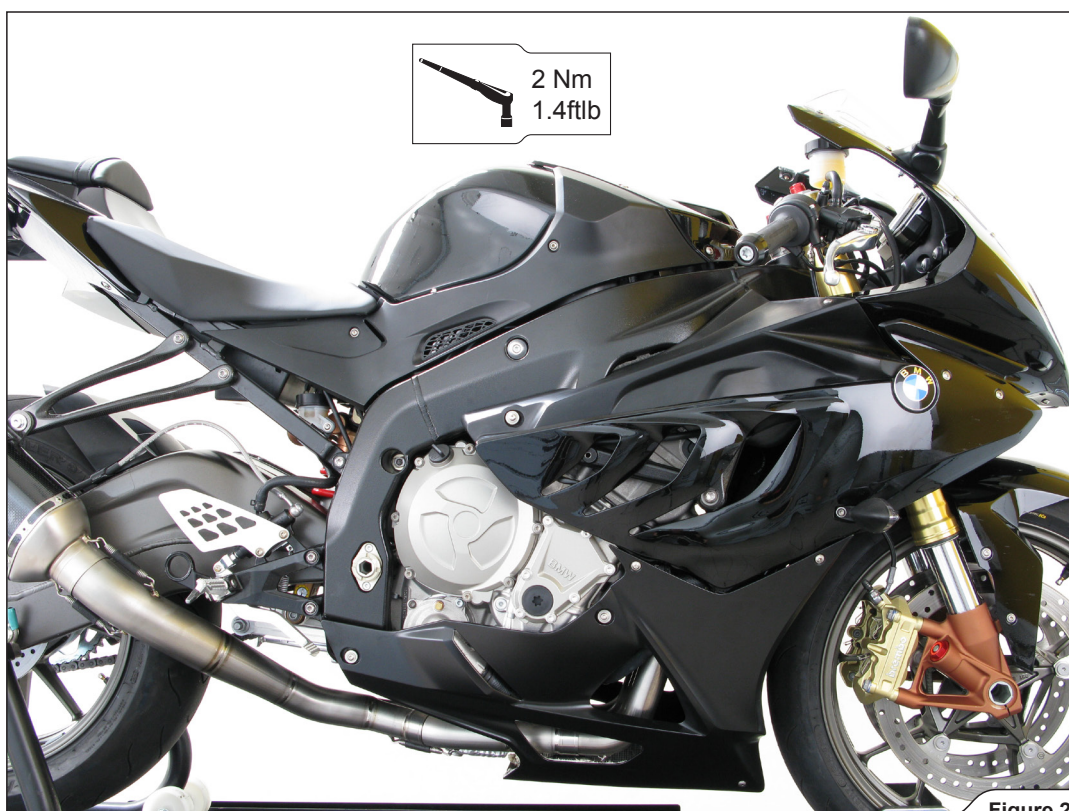

Figure 25
9. Assemble the cowlings in the reverse order from the order in which they were removed (**Figure 25**).